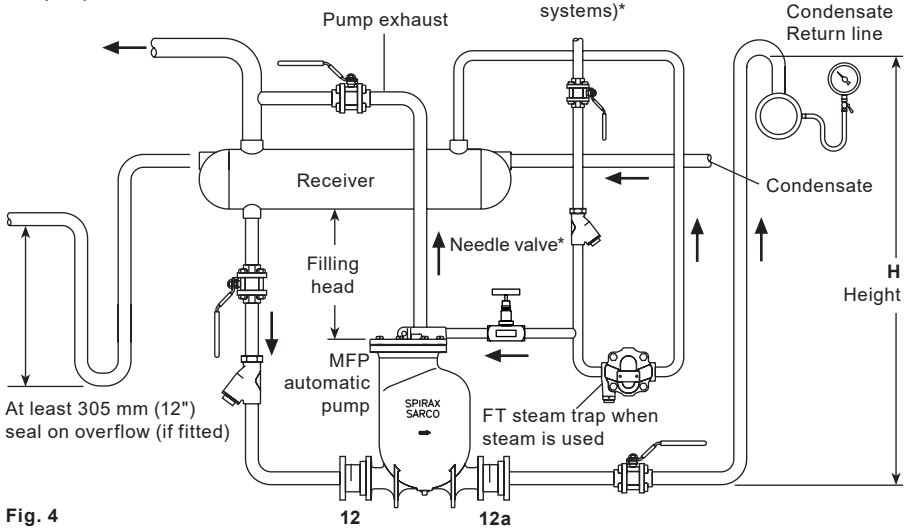
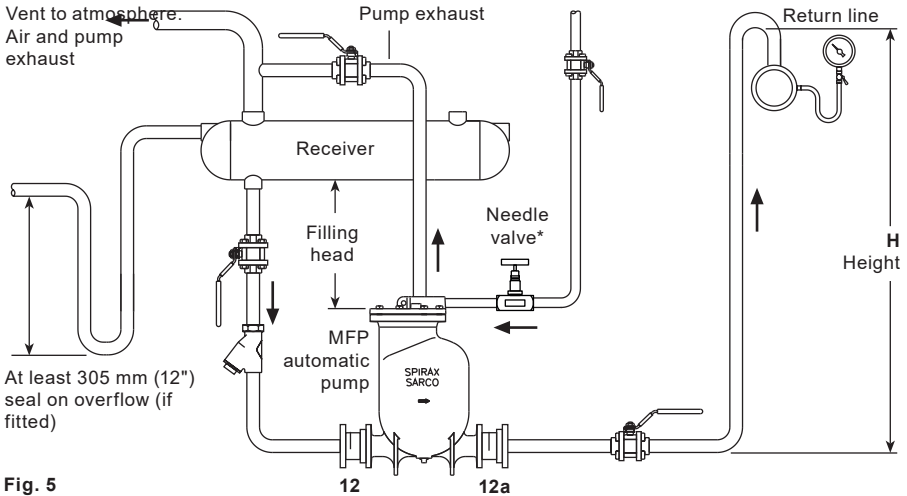

Fig. 4
Fig. 5
1. Install the pump below the equipment to be drained with the exhaust connection vertically upwards. Pump should be installed with the recommended filling head (the vertical distance between the top of the pump and the bottom of the reservoir/receiver), see Section 3.2 and Fig. 5. For other filling head variations, refer to separate capacity chart.
2. To prevent equipment flooding during the pump discharge stroke, a vented receiver or reservoir pipe should be installed in a horizontal plane ahead of the pump as shown in Fig. 4. For proper receiver/reservoir sizing, refer to Tables 1 and 2 on pages 16 and 17. All inlet line fittings must be full bore.
3. Connect the check valves (12) and (12a) to the pump making sure that the flow through the valves is in the correct direction. For best performance, horizontal piping runs immediately ahead of the inlet check valve and after the discharge check valve should be kept to a minimum. Connect the discharge to the return main or other return point. Torque tighten inlet and outlet flange bolts to 76 - 84 N m (56 - 62 lbf ft).
4. Connect the operating medium (steam, air or gas) supply to the motive supply inlet in the cover (see Fig. 4 and 5, page 14). Steam motive supply should have: A strainer, needle valve (to optimise the motive supply pressure during commissioning) and a steam trap (discharging to the receiver or reservoir piping) installed upstream of the supply inlet. Compressed air motive supply should have: A filter regulator and needle valve installed upstream of the supply inlet.
Sufficient reservoir volume is needed above the filling head level to accept the condensate reaching pump during the discharge stroke. The receiver can be a length of pipe of large diameter or a tank. If desired, receiver overflow piping can be installed as shown in Fig.4 and Fig. 5 in Section 3 and piped to a suitable drain. The piping must form a U-type water seal at least 305 mm (12") deep immediately after the receiver.
- Connect the operating medium (steam only) supply to the motive supply inlet in the cover (see Fig. 4 page 14).